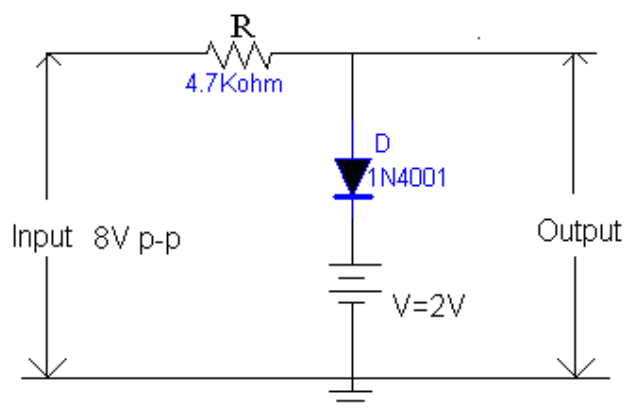

Fig.1
The process whereby the form of a non sinusoidal signal is altered by transmission through a linear network is called “linear wave shaping”. An ideal low pass circuit is one that allows all the input frequencies below a frequency called cutoff frequency f_c and attenuates all those above this frequency. For practical low pass circuit (Fig.1) cutoff is set to occur at a frequency where the gain of the circuit falls by 3 dB from its maximum at very high frequencies the capacitive reactance is very small, so the output is almost equal to the input and hence the gain is equal to 1. Since circuit attenuates low frequency signals and allows high frequency signals with little or no attenuation, it is called a high pass circuit.
1. Connect the circuit as shown in Fig.1 and apply a sinusoidal signal of amplitude of 2V p-p as input.
1. Connect the circuit as per circuit diagram shown in Fig.1